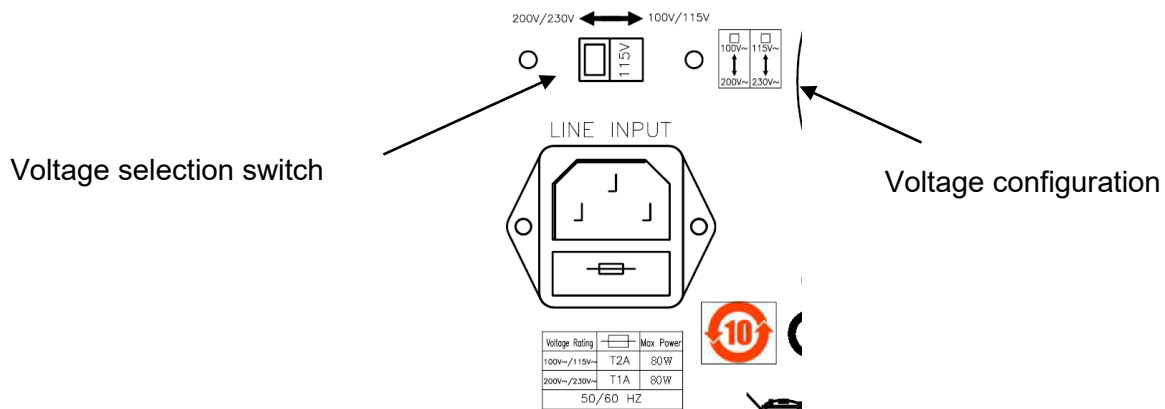

Fig 2-1 33431G LINE INPUT AND VOLTAGE SELECT SWITCH
- 2.2.2 Refer the drawing on the rear panel of 33431G high power load in Fig 2-1, set the switches to the proper voltage as describe in the following: